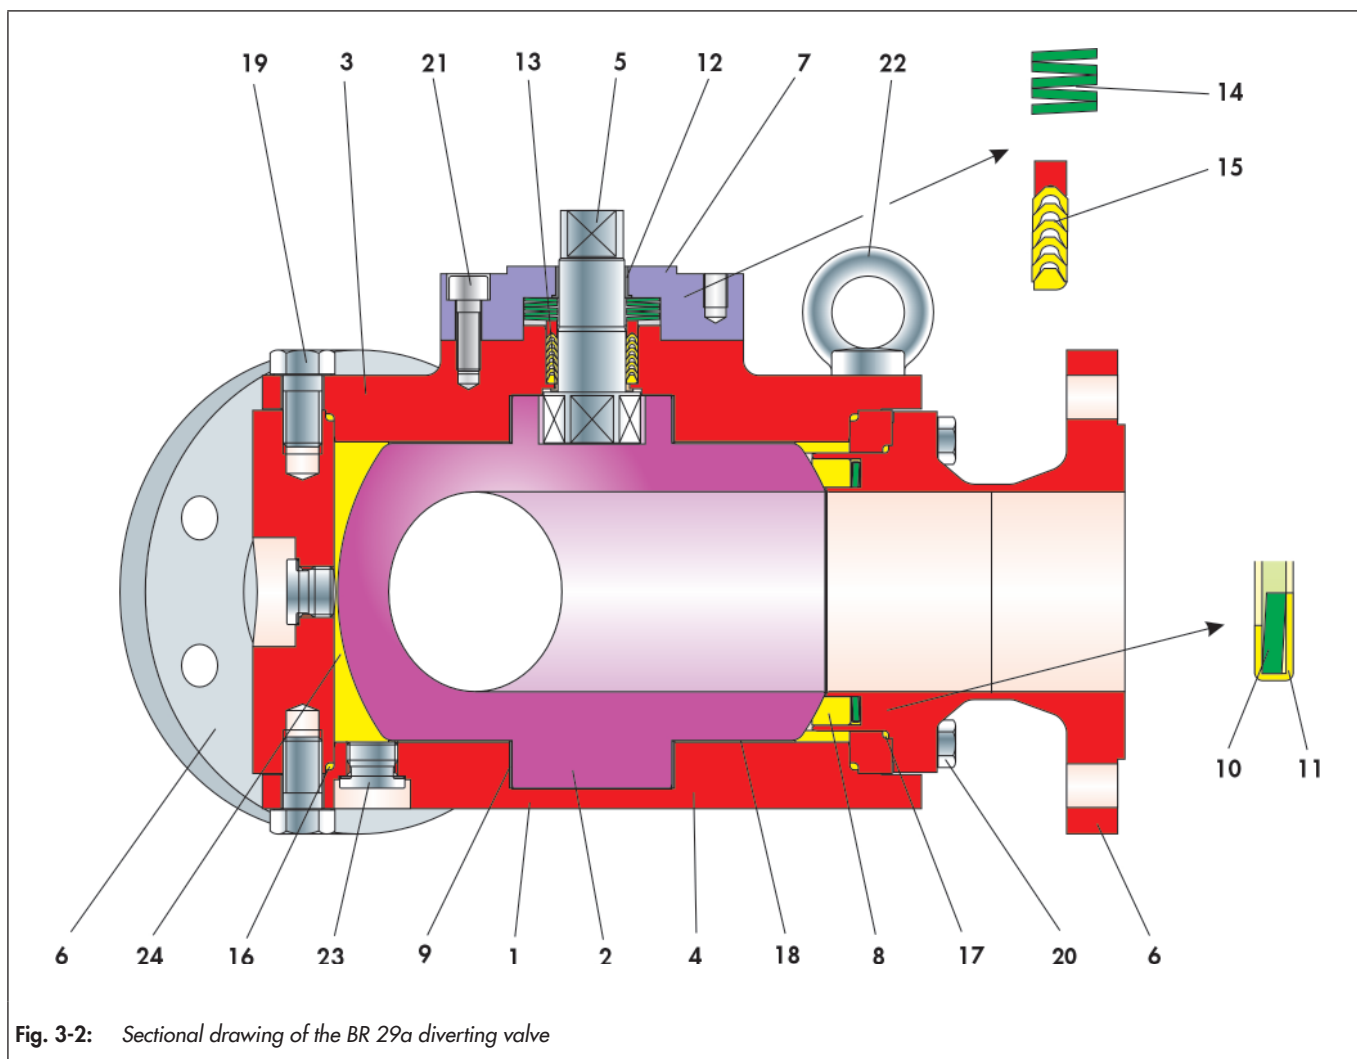

Fig. 3-2: Sectional drawing of the BR 29a diverting valve
The position and arrangement of the individual parts shown in Fig. 3-2 must be observed during assembly.
- ⇒ Insert the lined disc spring (10) in the side body (6), see Fig. 3-2.
- ⇒ The seat ring (8) is pressed onto the disc spring (10).
- ⇒ Repeat this assembly for all side bodies (6).
- ⇒ Place the main body (1) on an even and clean work surface, so that the inside of the diverting valve is easy to reach from the foot side.
- ⇒ Place the bottom O-ring (16) in the main body (1).
- ⇒ The base flange (4) is mounted onto the main body (1) and aligned with the screws (19). Tighten the screws evenly and in alternating pattern.
- ⇒ *The sealing surface of the control shaft (5) must not be damaged.*
- ⇒ *Make sure that the bearing bush (13) with the control shaft (5) does not slanted when positioning in the main bod*
- ⇒ With a light rotating movement, press the V-ring packing (15) over the control shaft (5) and place in the packing chamber of the bonnet flange (3). For the arrangement of the V-rings, refer to the drawing Fig. 3-2.
- ⇒ Now the disc spring set (14) is placed on the V-ring packing. For the arrangement of the disc springs, refer to the drawing Fig. 3-2.
- ⇒ Press the bearing bush (12) into the stuffing box flange (7).
- ⇒ Following this, place the stuffing box flange (7) over the control shaft onto the bonnet flange (3).
- ⇒ Adjust the stuffing box flange with the greased screws (21) and tighten these evenly and in alternating pattern.